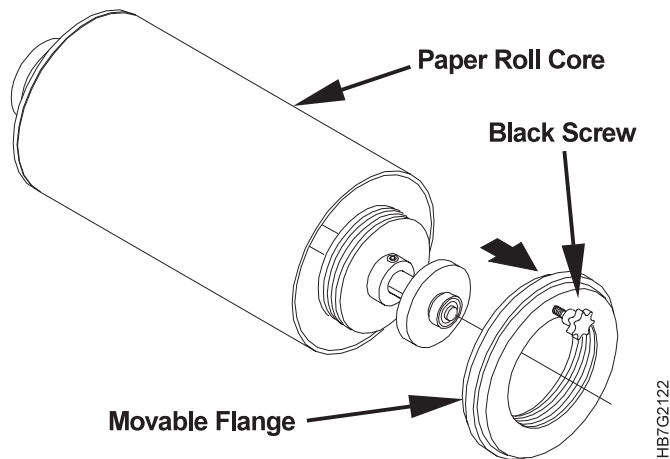

Figure 235. Removing Flange from Paper Roll Shaft
1. Loosen the black screw on the movable (plastic) flange, as shown in Figure 235. Turn the flange counterclockwise until it is loose enough to remove.